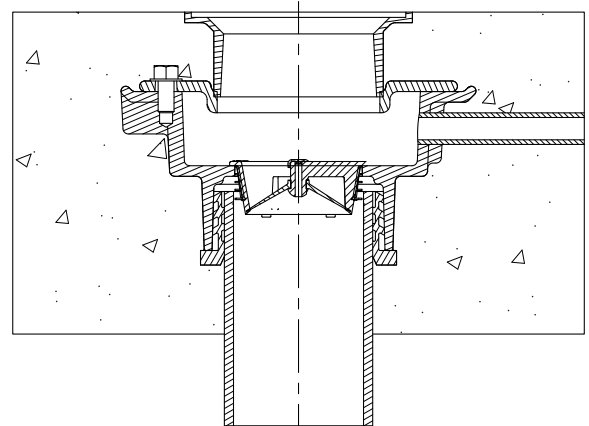

Fig. 3
3. Push Z1072 into bottom of drain body or outlet pipe until the underside of the barrier trap is flush with bottom of drain or top of the pipe. See Fig. 3